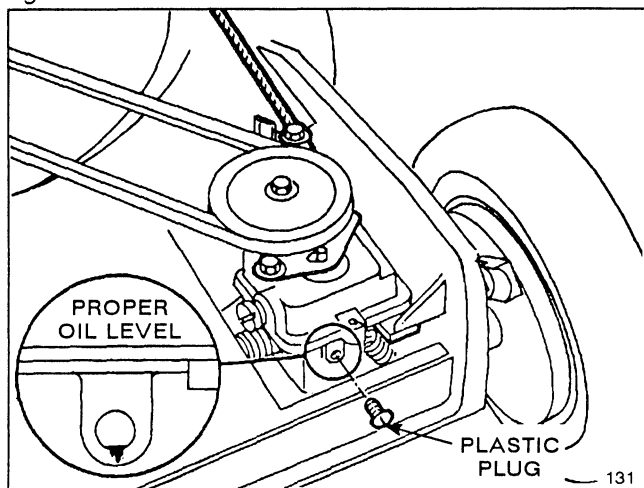

Figure 16
2. CHECKING GEAR OIL LEVEL (Fig. 16)—Position mower on level surface and clean around plastic plug. Remove plastic plug and watch for oil to ooze out of hole. If gear oil oozes out, quickly install plastic plug because oil is at proper level. If oil does not flow, add gear oil: see step 3.